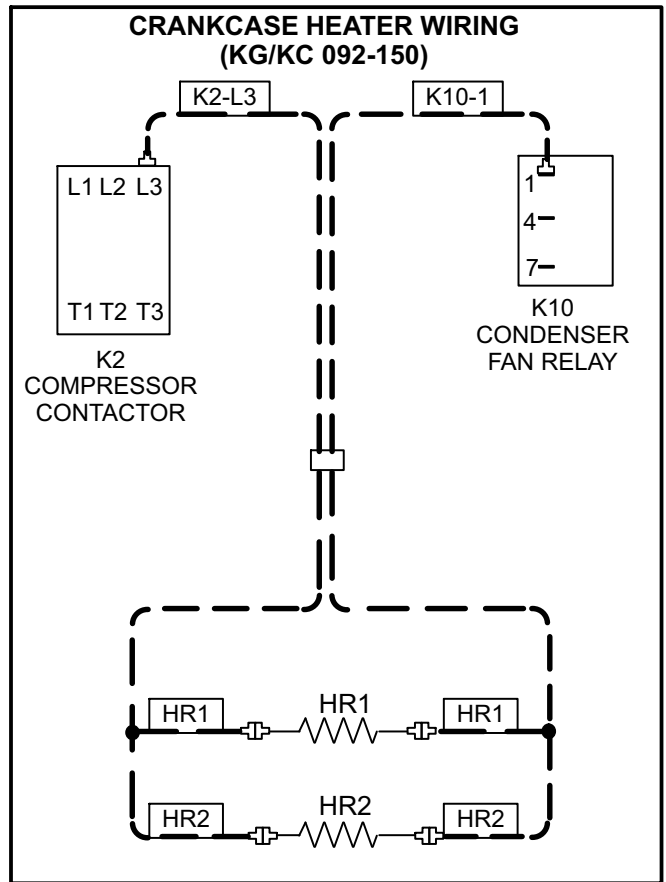

FIGURE 3
- 4- Use markings on wires to connect harness as shown in figure 3. Also refer to unit wiring diagram.